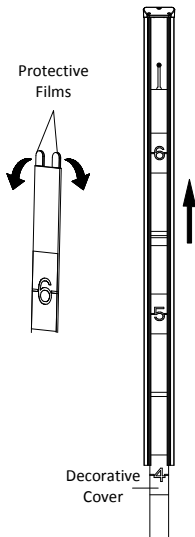

Figure 2-18 Peel off Protective Films and Slide the Decorative Cover in the Base
9. Peel off protective films on both side of the decorative cover. Slide the decorative cover in the base. See Figure 2-18.